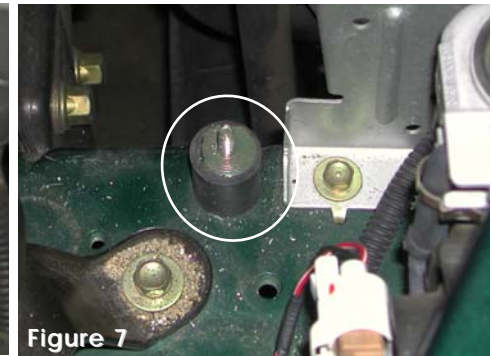

Figure 7
- 4- Screw the 6mm vibra-mount into the car frame, turn until the vibra-mount has bottomed out. (See fig. 7)
- 5- Position the cold air intake in the engine compartment, insert filter end into the resonator opening. Align the intake bracket to the vibra-mount stud. The intake bracket will sit flush on top of the vibra-mount. Slowly, insert the top end of the intake into the throttle body hose, semi-tighten the clamp on the throttle body side. (See figs. 7 thru 9)